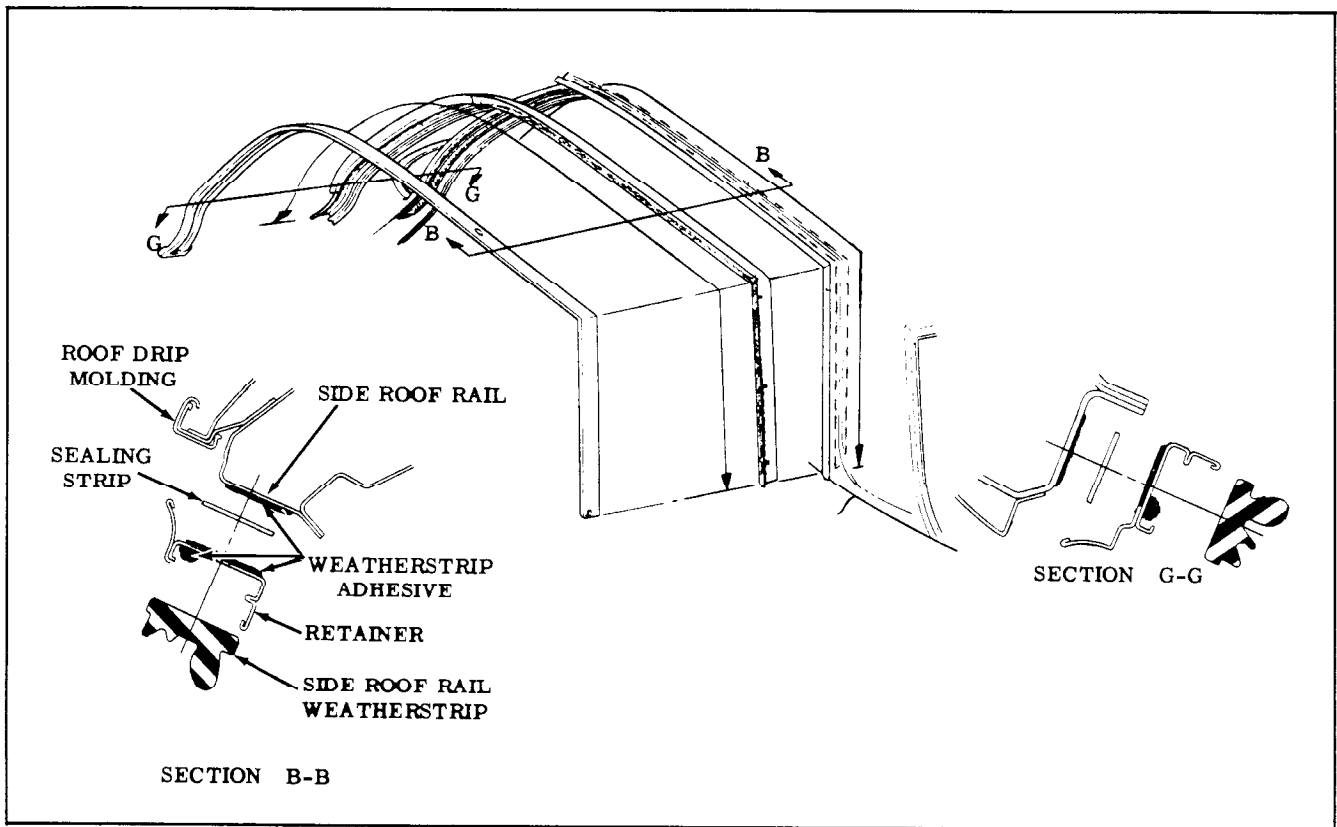

Fig. 17-8 "47" and "39" Style Side Roof Rail Weatherstrip Assembly
2. Apply a continuous bead (approximately 3/16" diameter) of weatherstrip adhesive along entire outboard surface of side roof rail weatherstrip retainer. (Section "B-B", Fig. 17-8)